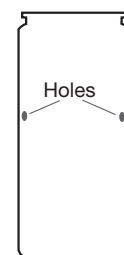

Figure 3.
5. When shaking is no longer very effective, make a similar hole in the exact opposite side of the can—180° from the first slit (see Figure 3). Blow through this hole to force the remainder of the soda out of the can.